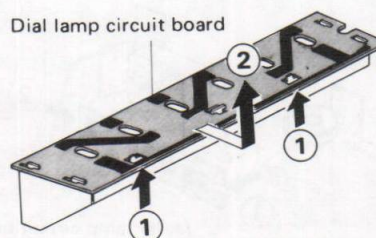

Fig. 13
To remove dial lamp circuit board from reflector, raise the circuit board near the tabs in arrow (1) direction and slide in arrow (2) direction. (Refer to Fig. 13).